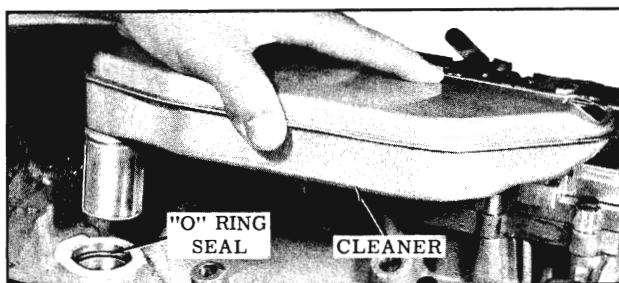

Fig. 3-222 Removing Cleaner Assembly
5. Remove cleaner assembly from transmission. Inspect "O" ring seal in case and replace if damaged. (Fig. 3-222).